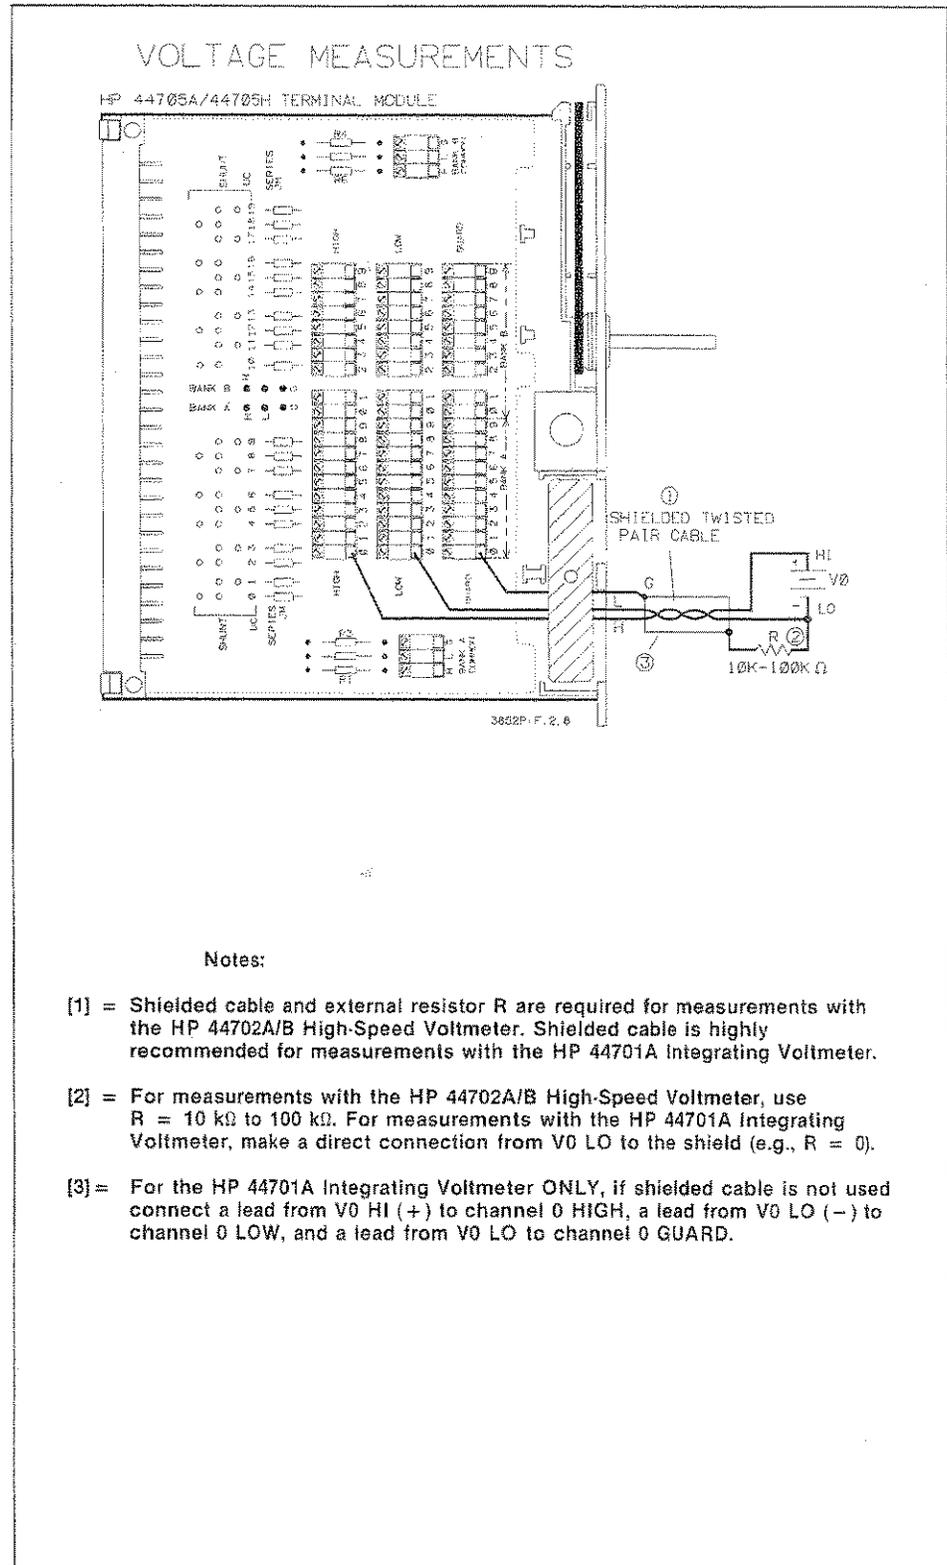

Figure 2-8. HP 44705A/44705H Voltage Connections
Figure 2-8 shows typical voltage measurement connections to channel 0 on the terminal module. Connect the HI (+) lead from the voltage source to channel 0 HIGH terminal and the LO (-) lead from the voltage source to the channel 0 LOW terminal. If a guarded (3-wire) voltage measurement is being made, connect the shield from the shielded twisted-pair cable to the channel 0 GUARD terminal.
Since shielded, twisted-pair cable reduces measurement noise, shielded cable is required for measurements with the HP 44702A/B voltmeter and is recommended for measurements with the HP 44701A voltmeter. Also, for the HP 44702A/B voltmeter, an external resistor (R) should be connected between the source voltage LO and the shield, as shown in Figure 2-8.